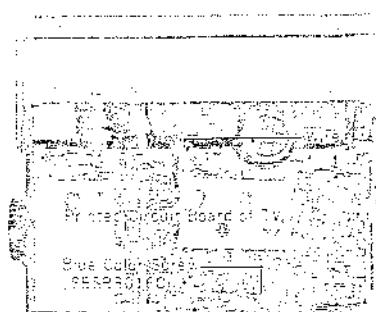

Fig. 6
- Unfasten a blue color screw fastening printed circuit board indicated in Fig. 6, and disconnect the wires connected to UHF antenna terminals and the wire between printed circuit board of TV and radio (Fig. 6).